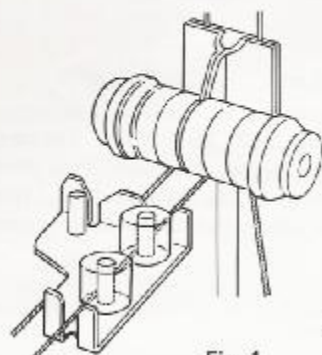

Fig. 1
2. Fit the guide rail of the carriage into the front rail (Fig. 1)
For lace knitting place the two reels of paraffin wax, one behind the other, so as the lace yarn will be applied with wax twice. (Fig. 1)